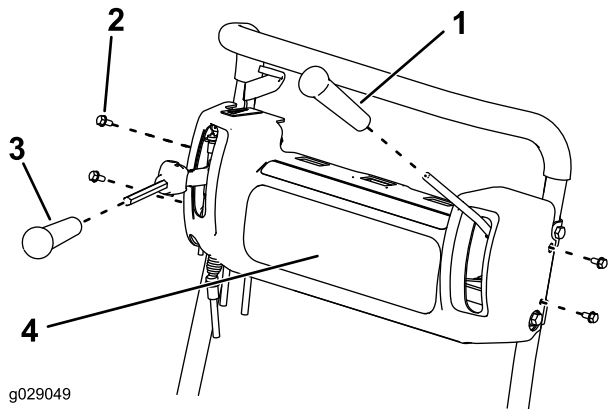

Figure 3
6. Remove the brake and traction lever grips (Figure 3).
7. Remove and discard the console cover (Figure 3).